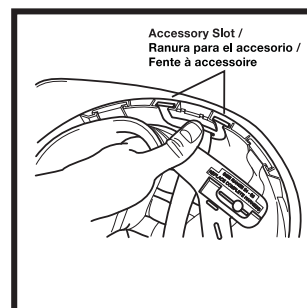

Figure 3
- For 6-point suspensions, take one of two double clips on each side of suspension's center and push it into slots on each side of accessory slot inside shell (Figure 3). Repeat for opposite side.